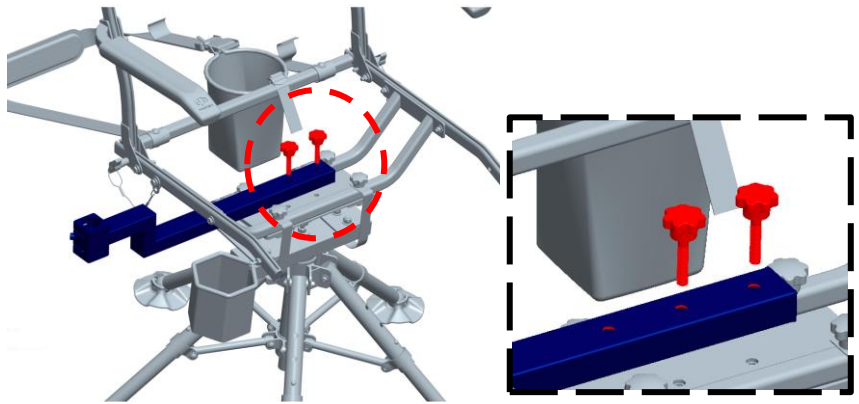

Figure 4
Install Chair Attachment Arm (#4) on NEXCAM hunting chair seat support base using two (2) M8x40 knob as show in Figure 4.